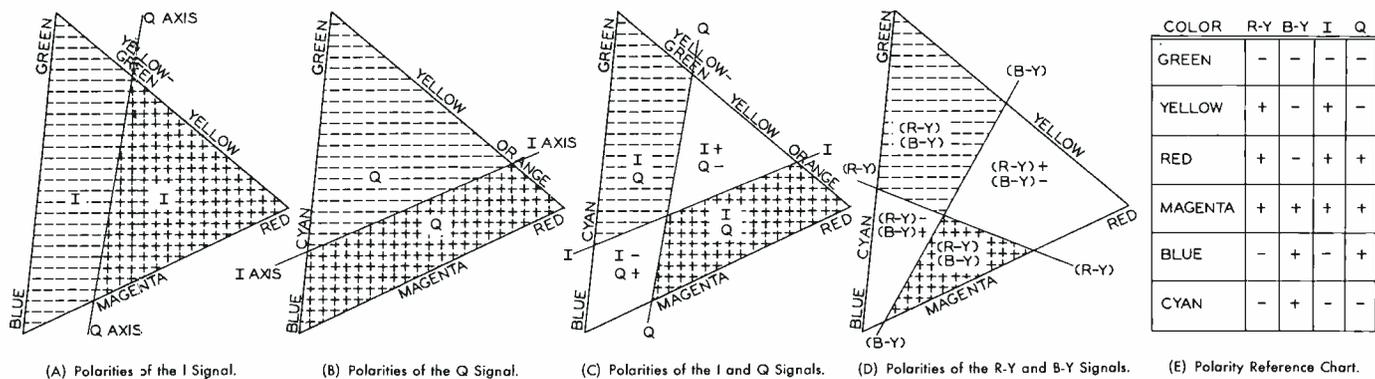

Fig. 3-14. Color Triangles Showing Polarities of the Color Signals.
A good way to remember the signal polarities associated with various colors is through the use of the color triangle. During this discussion, the reader may have noted that the I, Q, and color-difference signals for some color bars have a negative polarity and for other colors the signals have a positive polarity. By studying the color triangles of Fig. 3-14, the reader may find it easier to remember which colors produce an I, Q, or color-difference signal that is negative and which provide a positive signal.
4. What are the polarities of the I and Q signals for each of the three primary colors? (See if you can determine them without having to refer to Fig. 3-14.)